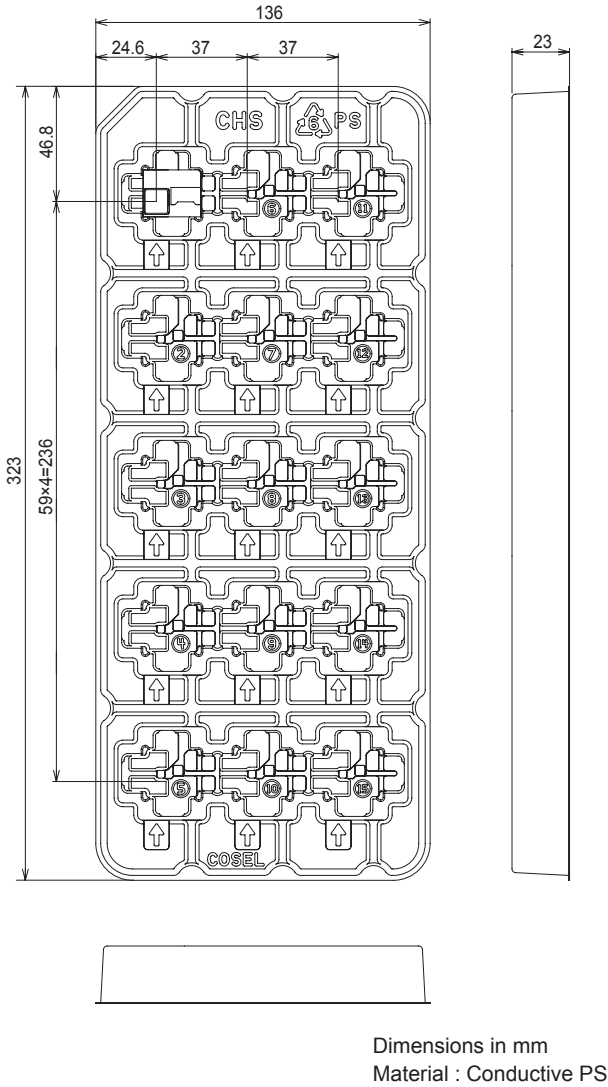
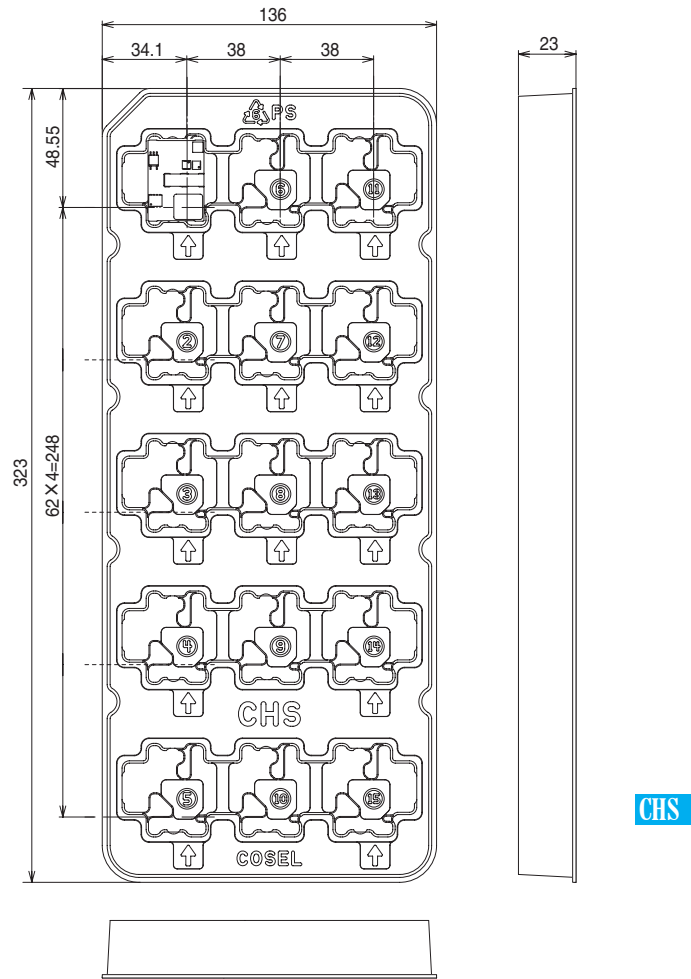

Fig.9.1 Delivery package information (CHS60)
Fig.9.2 Delivery package information (CHS80)
■ These are packed in a tray (Fig.9.1 to Fig.9.2).